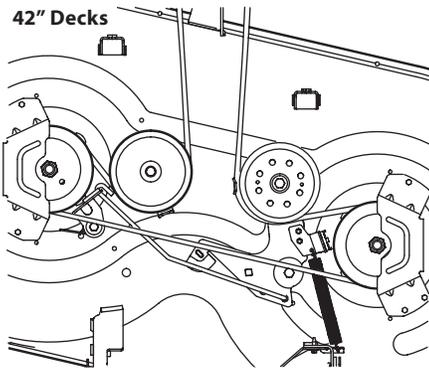
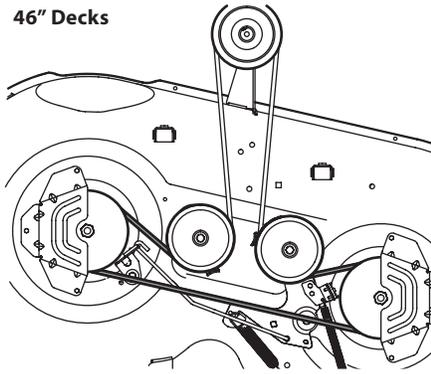
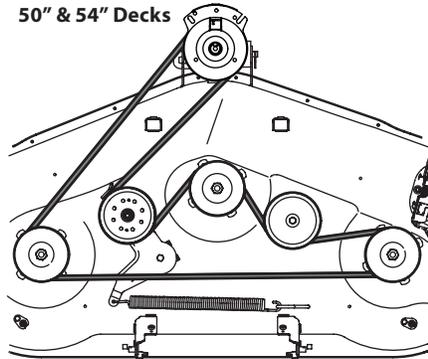

Figure 4-8
Figure 4-9
Figure 4-10
4. Route the new belt as shown in the applicable figure on the following pages. See Figure 4-8 for 42" decks, Figure 4-9 for 46" decks and Figure 4-10 for 50" & 54" decks.